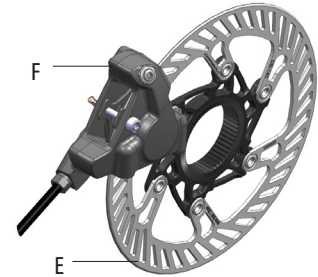

Fig.2
- Disc (E - Fig.2)
- Caliper (F - Fig.2)